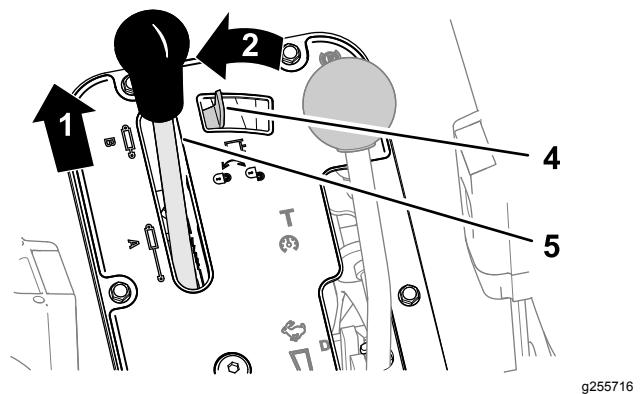
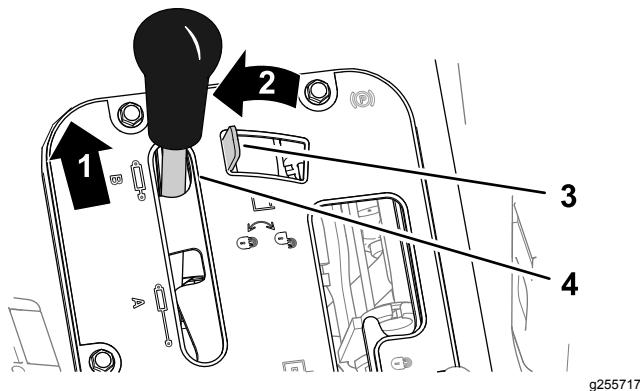

Figure 71
Figure 70
2. Move the hydraulic-lift lock left to engage the lock (Figure 70 or Figure 71).
1. Push forward the hydraulic-lift lever (Figure 70 or Figure 71).